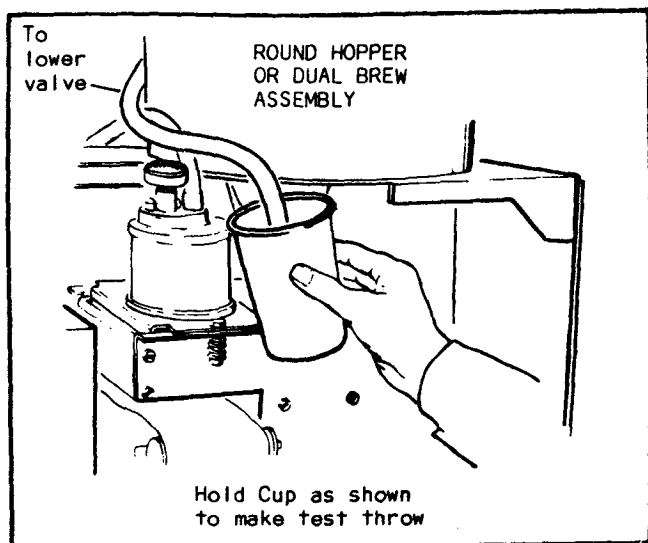

Figure 2-12. Hot Water Test Throw
1. COF - Remove hose (lower water valve to brewer) from brewer then press TEST THROW switch for hot drinks and catch Hot Water from tube into cup. See Figure 2-12.